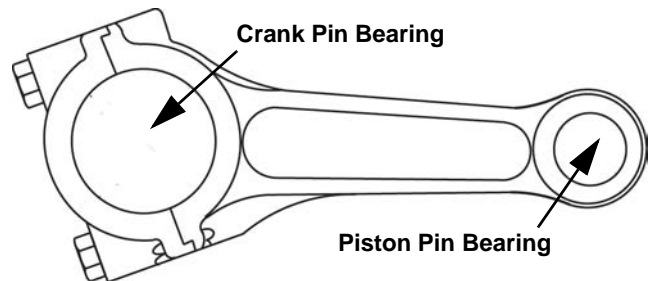

Fig. 37
2. Visually check crank pin bearing (Figure 37) for wear or damage. Replace connecting rod if piston pin bearings are loose or damaged.